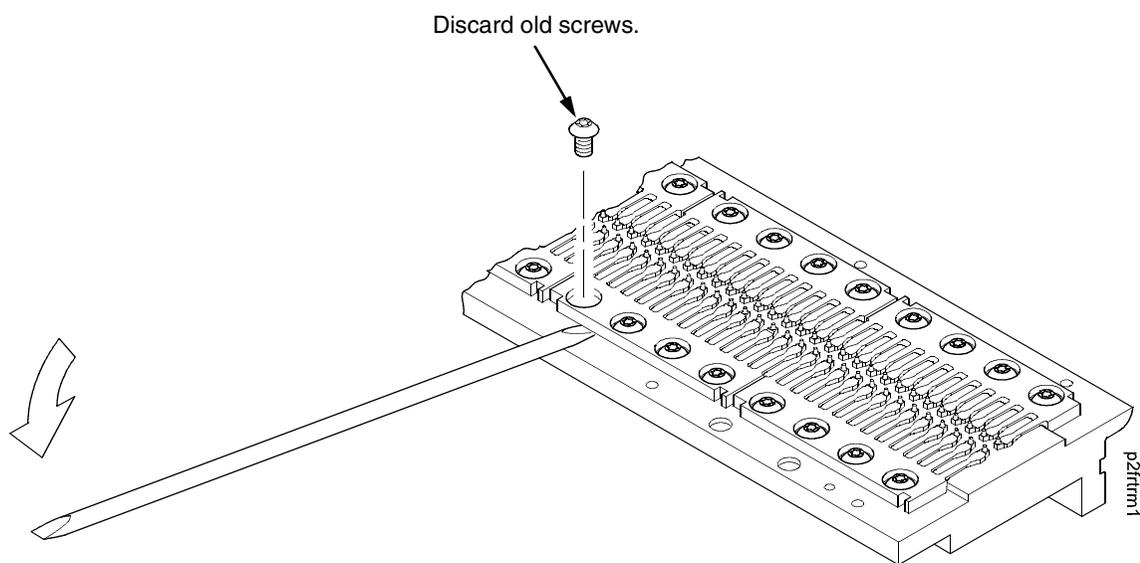

Figure 27. Hammer Spring Assembly, Removal
5. Remove the mounting screws from the old hammer spring assembly. (See Figure 27.)
6. Handling the hammer spring assembly by the mounting base only, gently pry up the base with the stick included in the replacement spring kit. (See Figure 27.)